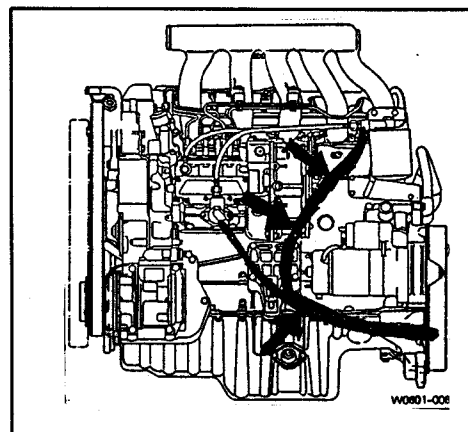

Figure 2
2. Reroute the fuel return line as shown in figure 2 arrows
(Figure 2 arrows)